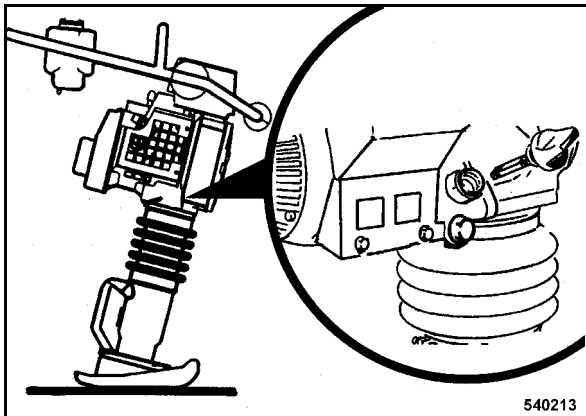

Fig. 33
- Pull out the dipstick (Fig. 33) and wipe it clean with a lint-free, clean cloth.